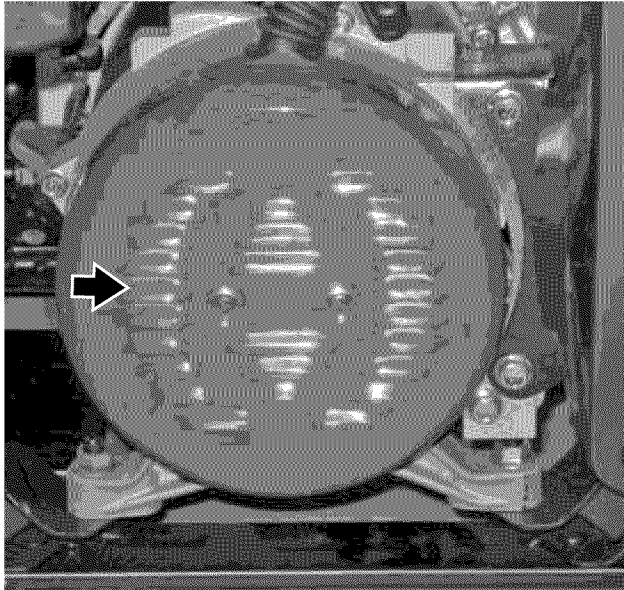
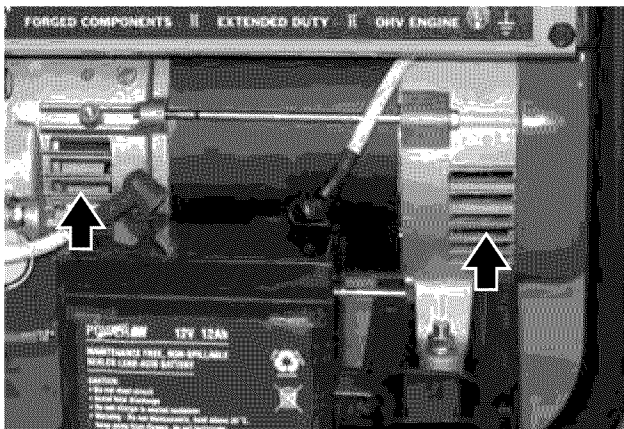

Figure 46 – Alternator Cooling Air Inlet and Outlet Port
Figure 47 – Alternator Cooling Air Inlet and Outlet Port
**Clean All Alternator Cooling Air Inlets and Exhaust Ports** – Make sure the cooling air inlets and exhaust ports of the alternator are free of any debris and obstructions. Use a vacuum cleaner to remove dirt and debris stuck in the cooling air inlets and exhaust ports (see *Figure 46* and *Figure 47*).